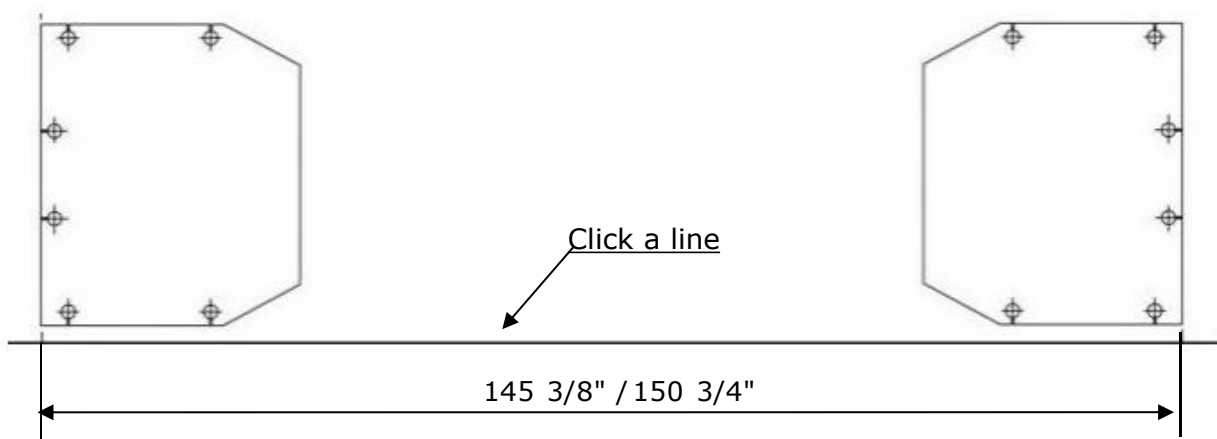

Fig.9
B. Use a carpenter's chalk line to establish installation layout of base-plate (See Fig. 9).